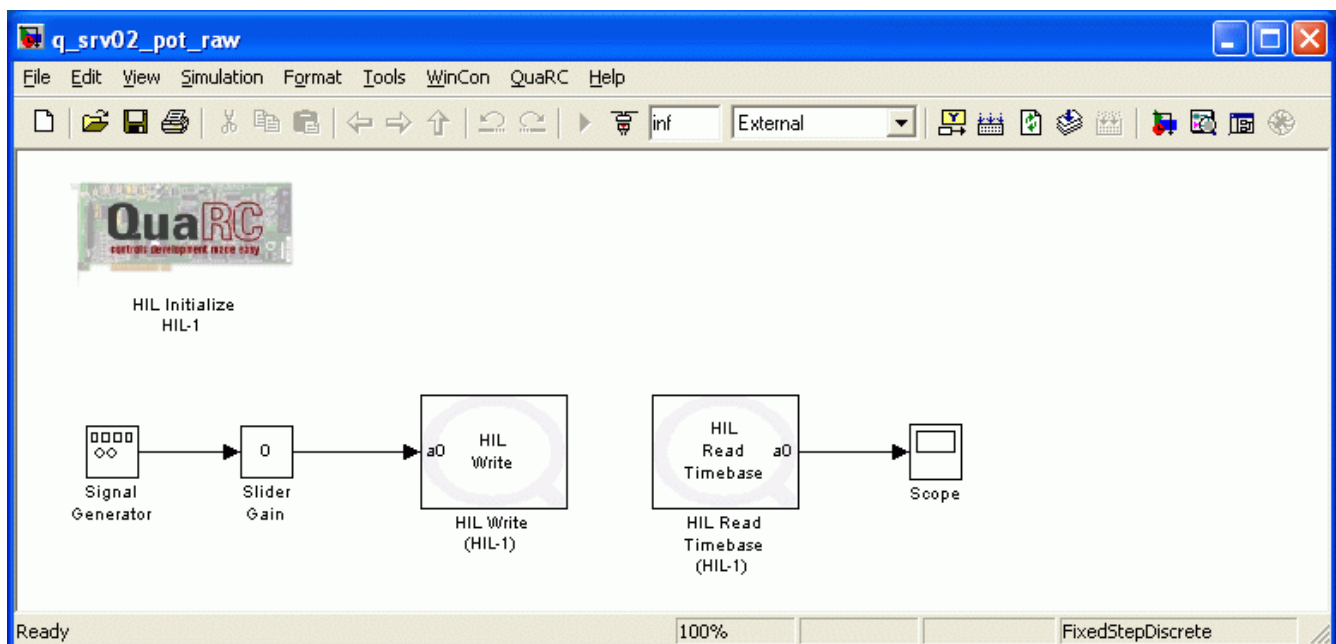

Figure 3: Simulink model used to send voltage to the SRV02 and obtain readings from the potentiometer sensor.
Design a Simulink model, similarly as pictured in Figure 3, below, that reads the potentiometer voltage.
5. Add a Scope block from the *Simulink \ Sinks* folder in the Library Browser and connect it to the output of the HIL Read Analog block, similarly as shown in Figure 3, above,